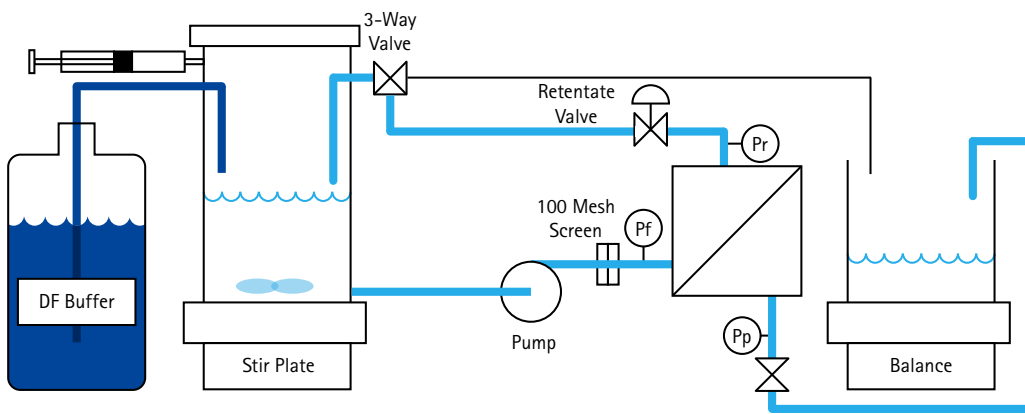

Figure 7.
- 6.7 The optimum TMP is found by selecting a pressure slightly below the "knee" of the flux vs. TMP curve. In the example the knee of the curve is 23-24 psid (Figure 7). The optimum TMP at this concentration is 20 psid.